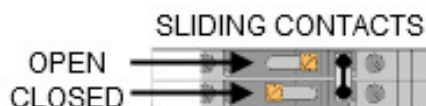

Figure A2-2: Position sliding contacts
Determine from tables A2.1 (6.6 kV) or A2.2 (11 kV) which CT ratio is applicable. In the following tables A2.6 and A2.7, the position of the sliding contacts of the CT terminals is given. Make sure the right contacts are opened or closed, see figure A2-2.
2. The sliding contacts of CT terminals X2:1 up to and including X2:7 are closed (see figure A2-2)
5. Open sliding contacts of CT terminals X2:8 up to and including X2:13 (see figure A2-2)